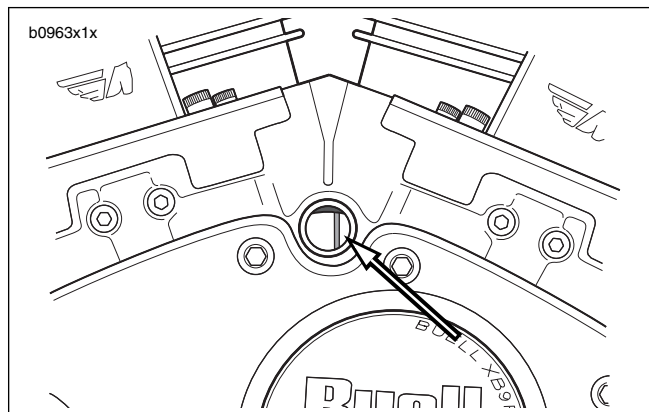

Figure 1-51. Retard Timing
4. See Figure 1-51. If timing is retarded (mark appears on right side of window) rotate timing plate clockwise.